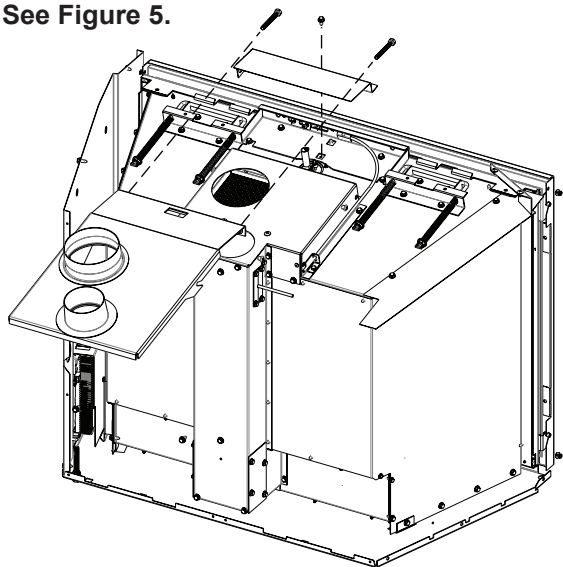

Figure 5
6. Remove 2 bolts holding the slide plate into place if you have not already done so. Set aside, it will be re-used. Also remove wire shield with 1 screw, replace screw and discard shield. Shield will not be needed. **See Figure 5.**